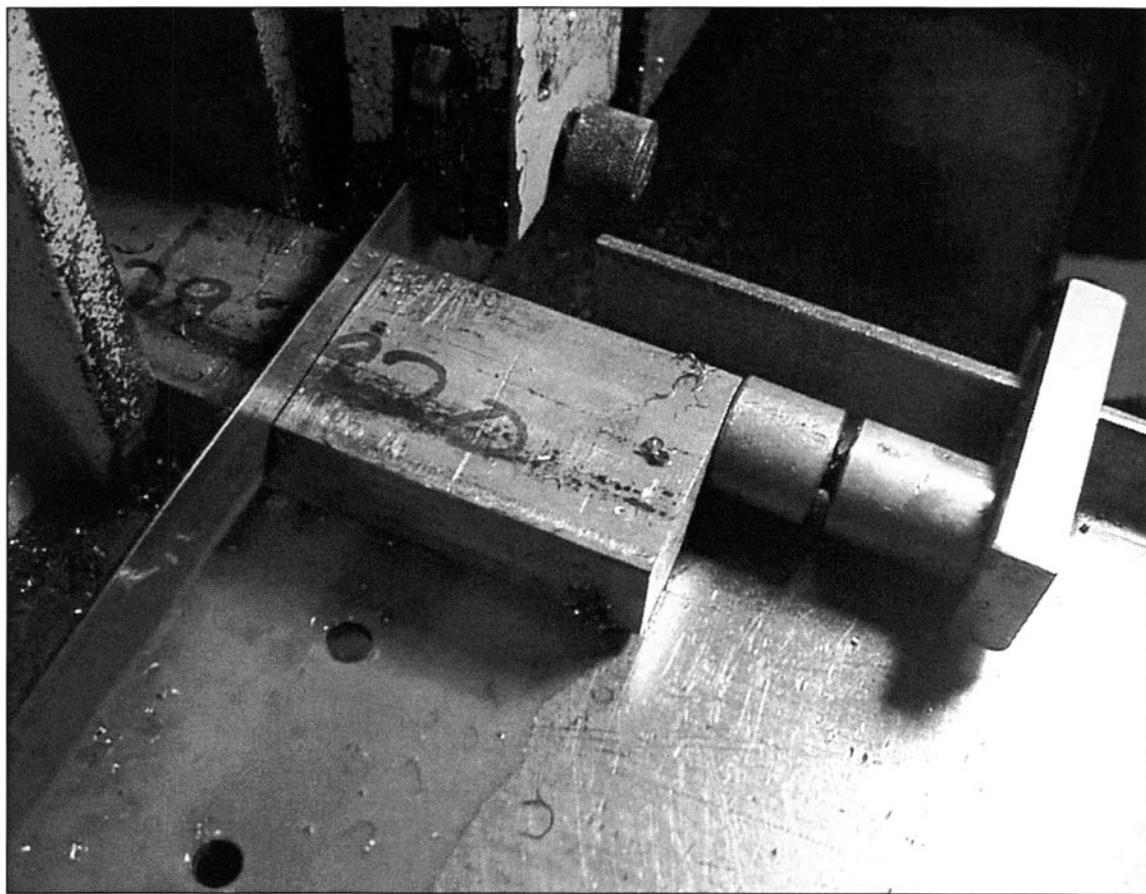

FIGURE 6-6 A spring loaded stop used in a horizontal band saw allows the part to move a little when it is cut through so it won't jam the blade.
6. *Use a spring loaded stop in a cutoff saw. (See Fig. 6-6)*